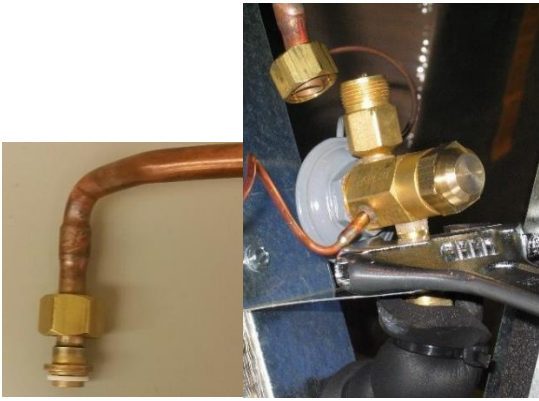

Figure 25. Install White Teflon O-ring in both connections (not on iSeries). Attach and tighten lower connecting nut
2. Connect the outlet to the 3/8" (9.5 mm) OD copper refrigerant fitting. Make sure the threaded fitting is tight (Figure 25).